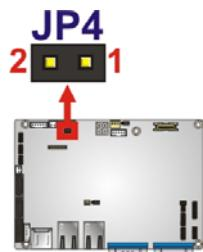

Figure 4-5: AT/ATX Power Mode Setting Jumper Location
**Jumper Location:** See **Figure 4-5**